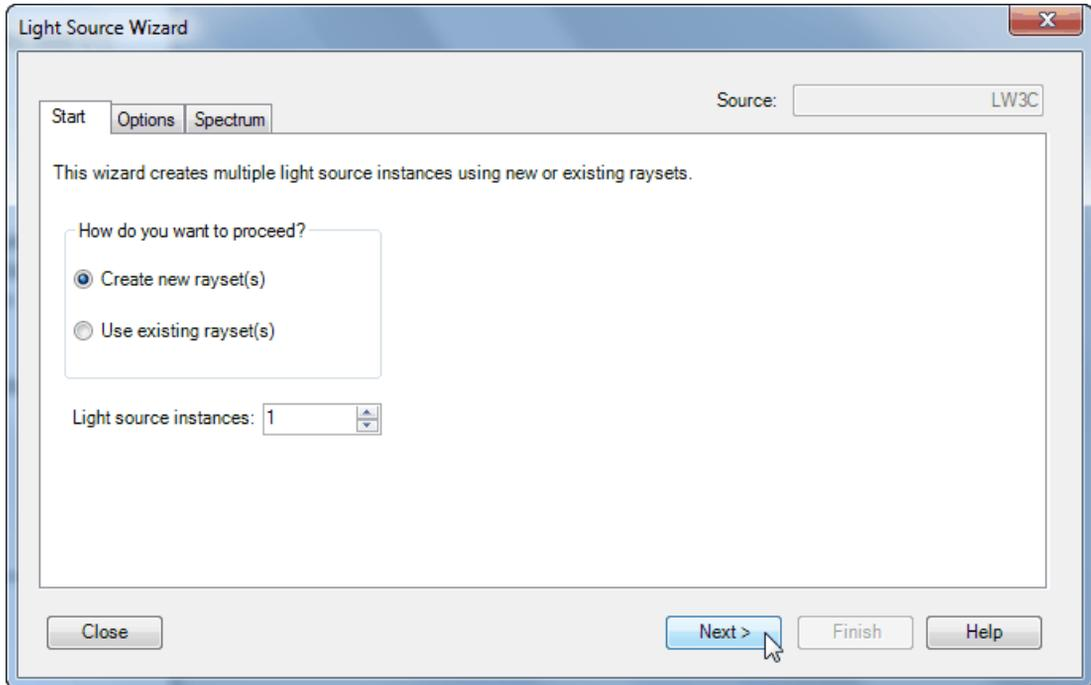

Figure 65 Light Source Wizard with default settings on the Start page for LW3C
- 3 Click **Insert** in the lower part of the Light Source Manager to open the Light Source Wizard. Note that LW3C is displayed next to **Source**, so you can confirm the correct source. See Figure 65.